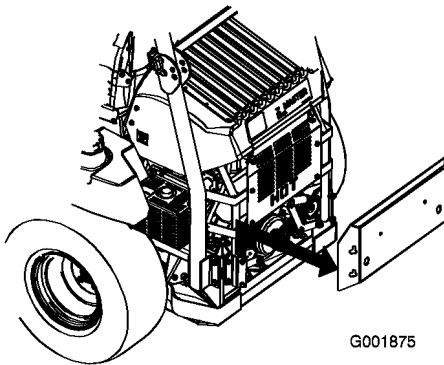

Figure 61
3. Remove the rear engine panel (Figure 61).